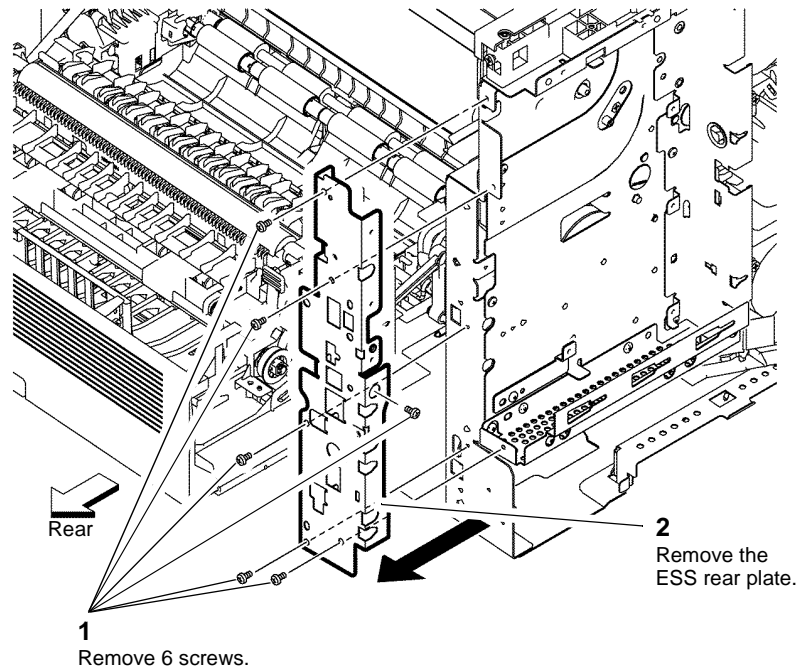

Figure 1 ESS rear plate
4. C400 machines only, remove the ESS rear plate, Figure 1.